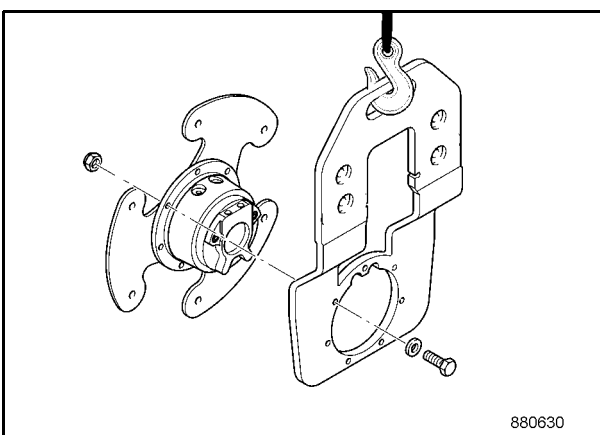

Fig. 22
31. Assemble the support leg (Fig. 22) with the drum drive motor.